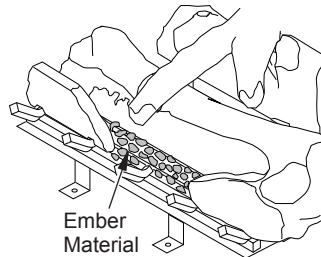

Figure 43 - Placing Ember Material on Burner
7. Pull ember material apart into pieces no larger than a dime. Place these pieces loosely and sparingly directly onto the exposed section of front burner and along space between burner and grate prongs (see Figure 43). This will create the glowing ember appearance as the flame touches the ember material. Do not block air slots by using too much ember material in one area. It is not necessary to use all of the ember material provided.